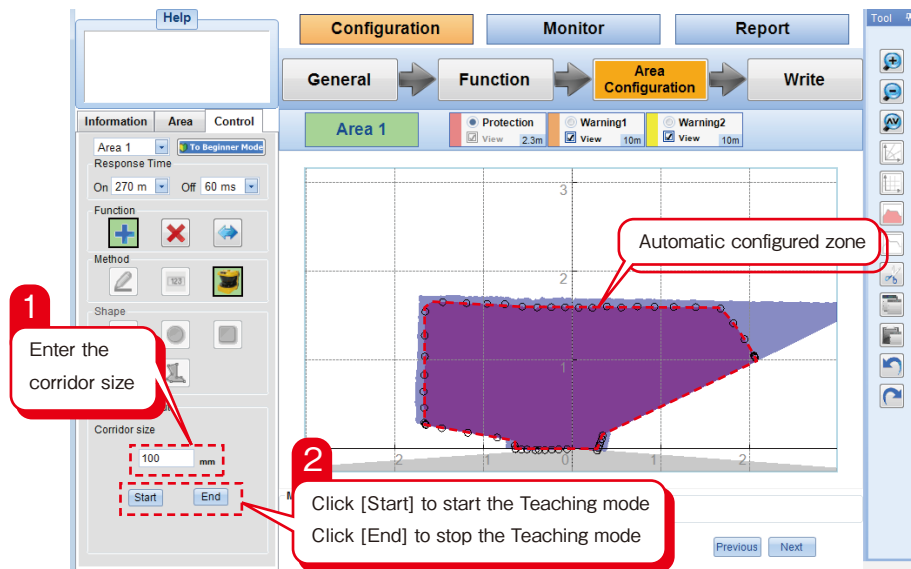

Figure 7-43. Teaching
- e) Click [Start] to enable the automatic zone configuration. Click [End] to terminate the automatic zone configuration. Surrounding boundaries are detected and will be shown including the corridor size (Figure 7-43).